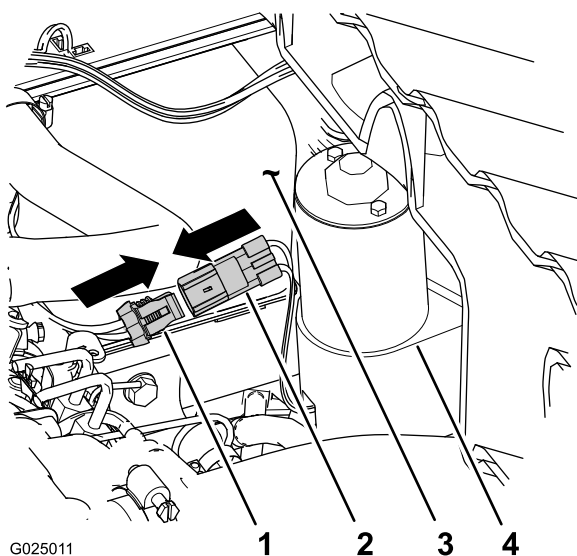

Figure 8
- Connect the 2 socket-electrical connector of the rear-wiring harness of the machine to the 2 pin connector of the lift actuator (Figure 8).